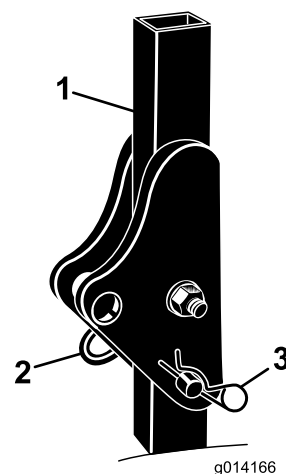

Figure 3
1. Remove the hairpin cotter pins and the pins from the roll bar (Figure 3).
2. Raise the roll bar to the upright position and install the 2 pins and secure them with the hairpin cotter pins (Figure 3).